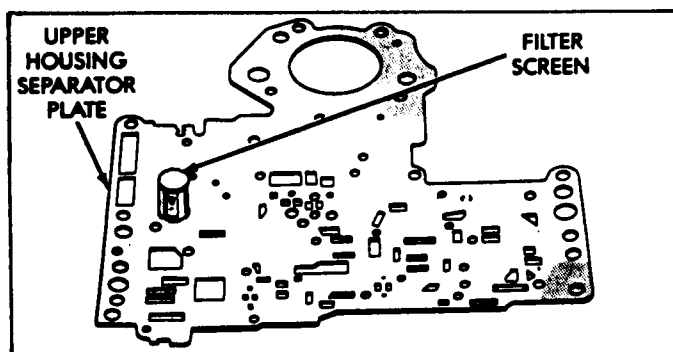

Figure 95
3. Install the filter screen into spacer plate, as shown in Figure 95.